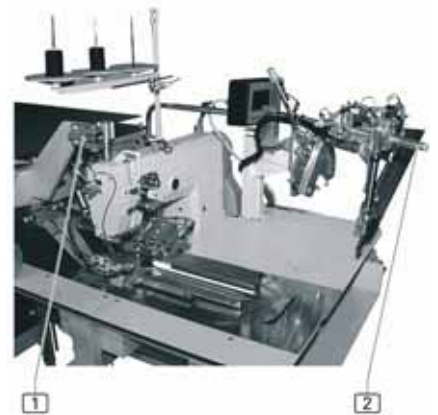

fig. 11
**fig. 11:** For the preparation work the holder  of the folder can be swung aside to enable free access to the sewing head. If light tension or pressure is applied, the holder clicks into the snap fastener of retainer .